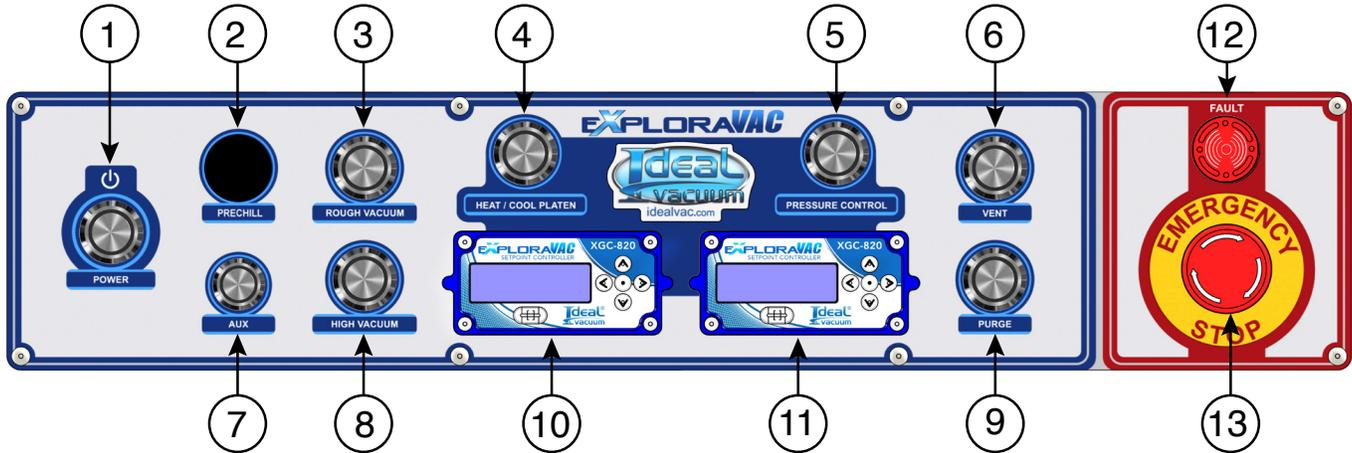

Figure 9 - Control panel layout
The system is manually operated by the illuminated, safety interlocked, push button switches on the control panel (Figure 9, below). These panel switches and setpoint controllers display current system conditions. Depending on the system function the user requests, the PLC will sequence valves, pumps, and the platen shelf to attain the requested state. For detailed information about switch and controller operations see Chap. 5, p. 24.
The platen’s built-in thermocouple is used for temperature measurements. Its temperature is controlled by the IVP XGC-820 temperature setpoint controller on the console control panel (Fig. 9, item 10, p. 16). The maximum temperature limit of the platen is 60°C. Heating is turned on and off by the HEAT/COOL platen switch (Fig. 9, item 4, p. 16).